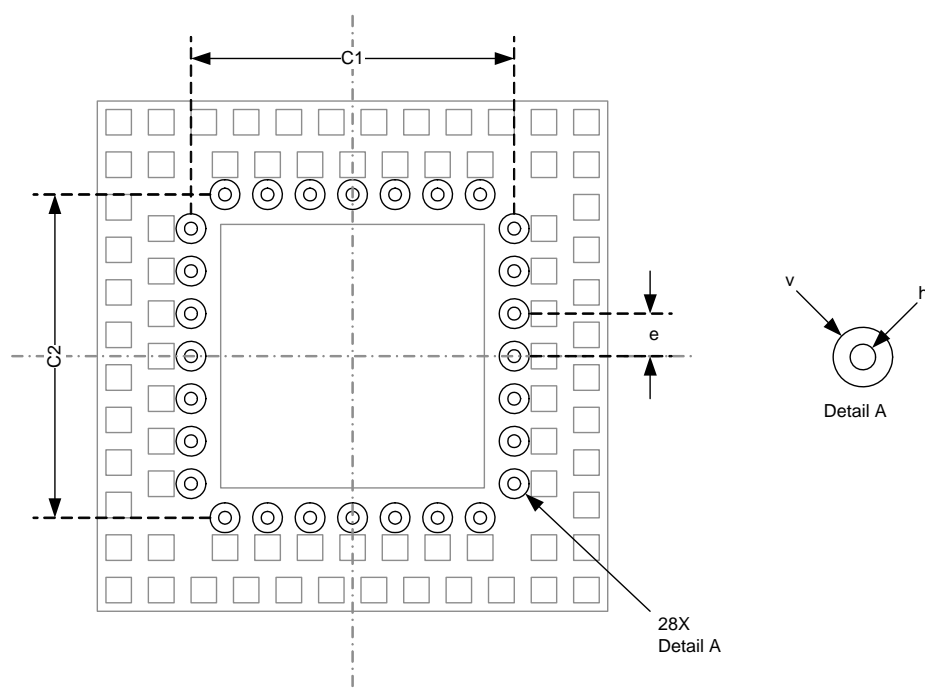

Figure 3.6. Recommended Inner Via Placement
1. Inner via placement per Figure 3.6.